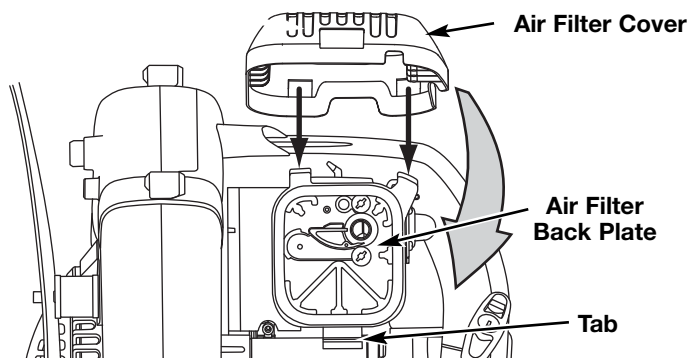

Fig. 29
- Swing the cover down until the tab on the air filter backplate snaps into place in the slot on the air filter cover (Fig. 29).